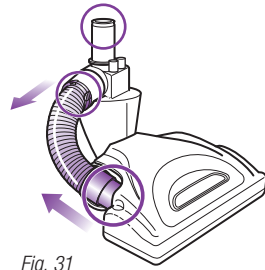

Fig. 31
- Detach the hose on the motorized floor brush at the top by squeezing the tabs together and pulling out, and at the bottom by pulling out the connector. Inspect inside the 3 holes. **(Fig. 31)**